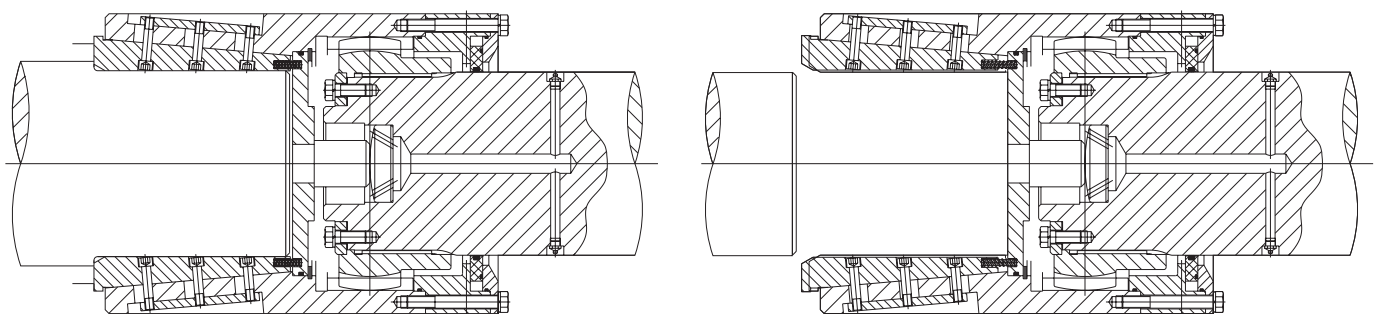

Figure 5 Automatic locking key
4) Automatic tapered keys, fig.5 are the best device for tight sleeve-to-roll connection with ease of roll removal and replacement. It consists of a pair diametrically opposed tapered keys which are snugly scated against the spade flats when a roll is inserted, but which follow the roll neck for a limited distance during removal and produce ample clearance across the flats for roll removal and re-entry.